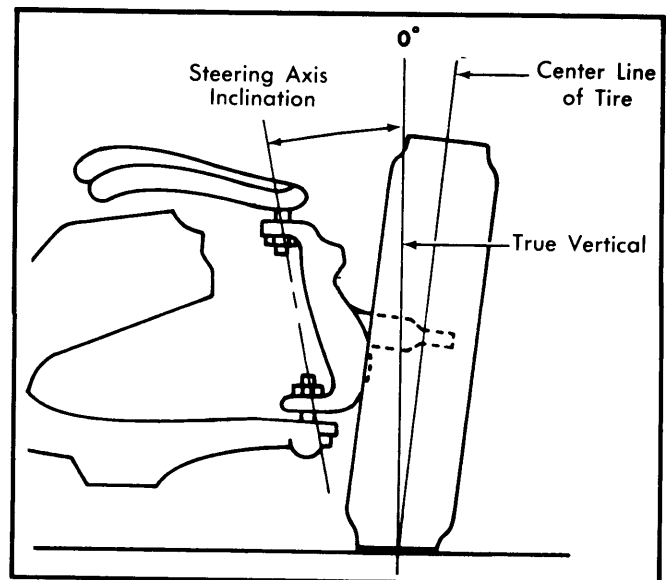

Fig. 7 Checking Steering Axis Inclination
- 1) Axis inclination is a check for bent or damaged parts, and not a service adjustment. Car must be level (both crosswise and lengthwise) and camber should be properly adjusted. See Fig. 7.